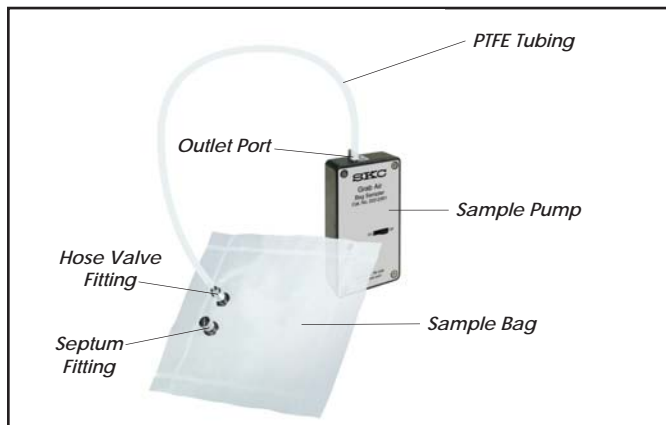

Figure 1. Grab Air Sampler connected to a 231 Series Bag with stainless steel fittings
3. Setting Up the Sampling Train — See Figures 1 & 2